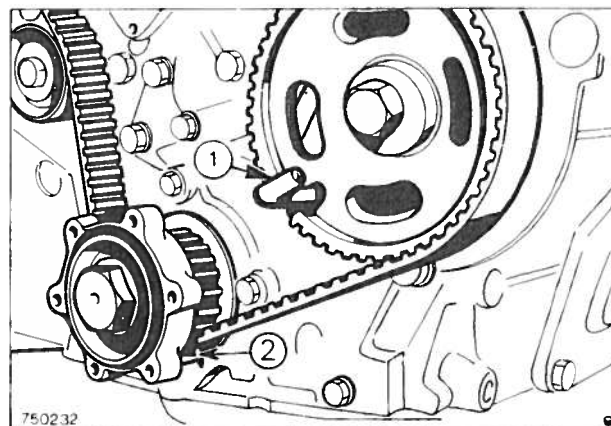

Fig. 38 Fitting the camshaft gear timing peg
25. Align the crankshaft timing marks (Fig. 38) and fit the camshaft gear timing peg – Tool Number 21-016.